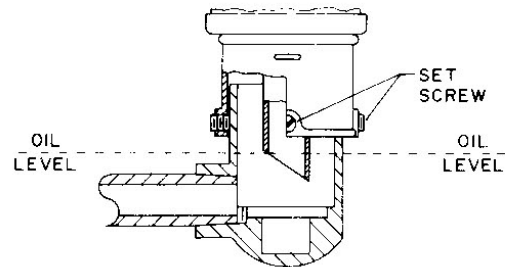

Figure 21
2. Place the upper part of the lubricator on to the lower part and tighten the three (3) setscrews (Figure 21).